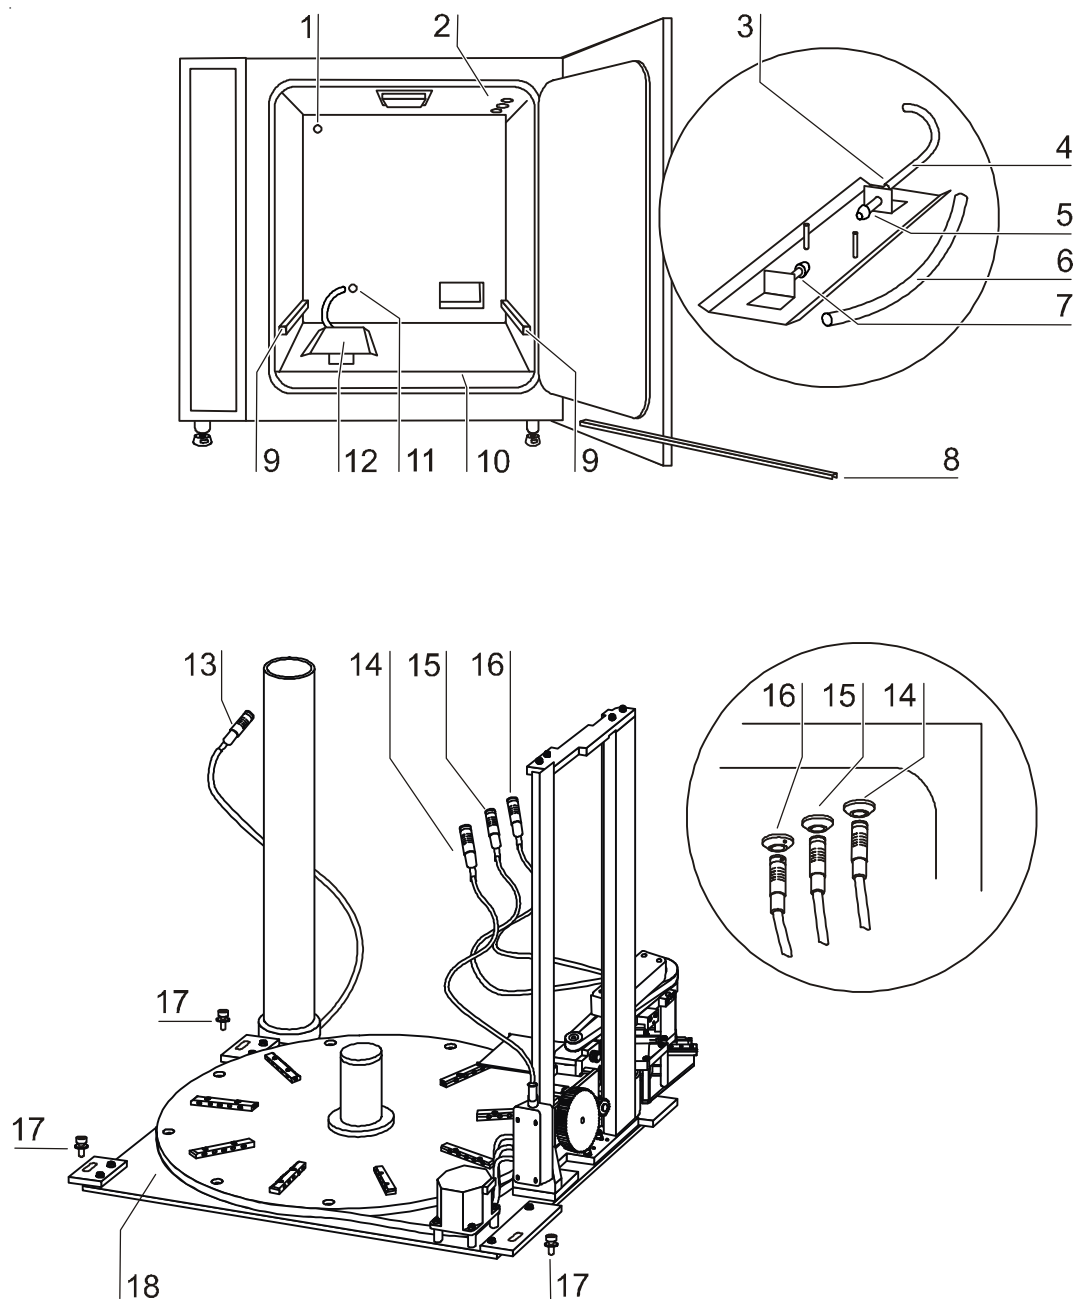

Fig. 16
1. **Fig. 16:** The pressure hose [4] is installed to the sleeve [11] on the device rear panel and to the sleeve [3] at the microperlator.
1. **Fig. 16:** Place the baseplate [18] onto the two support rails [9] at the markings of the front mounting plates.